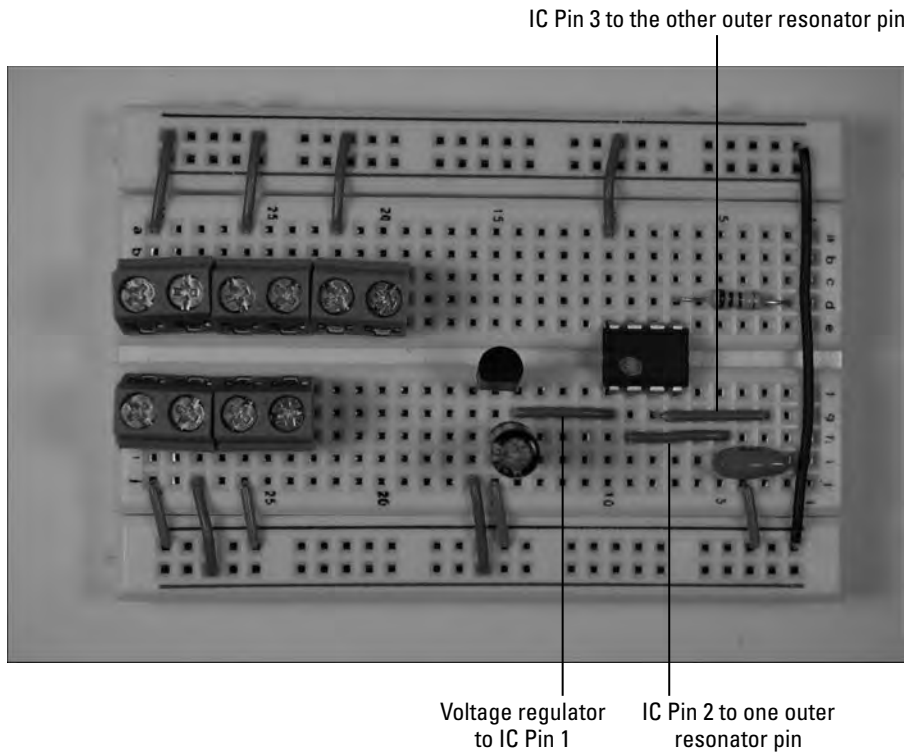

Figure 11-12:
5. Insert wires to connect the encoder IC, voltage regulator, and resonator, as shown in Figure 11-12.